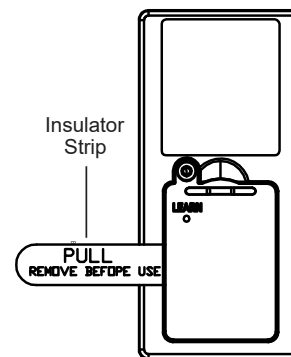

Fig. 19
Step 1. To activate the transmitter, carefully pull the insulator strips out of the transmitter to activate the pre-installed CR2032 3V button/coin cell battery. Discard insulator strips. (Fig. 19)